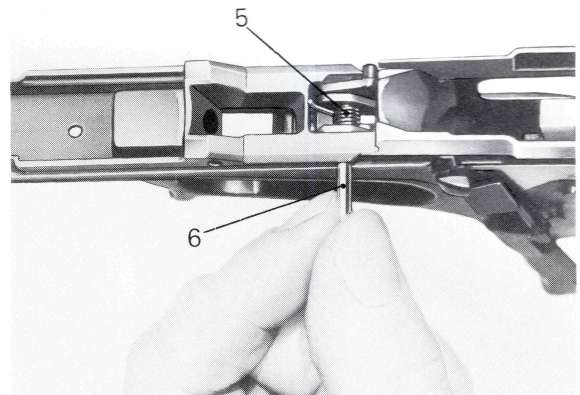

Fig. 34
- Position the trigger spring (5) in the trigger so that the longer end of the spring points towards the muzzle end. Retain the trigger and the trigger spring in the receiver with the assembly pin (Fig. 34), follow up with cylindrical pin (6) until it fits flush with both sides of the receiver.